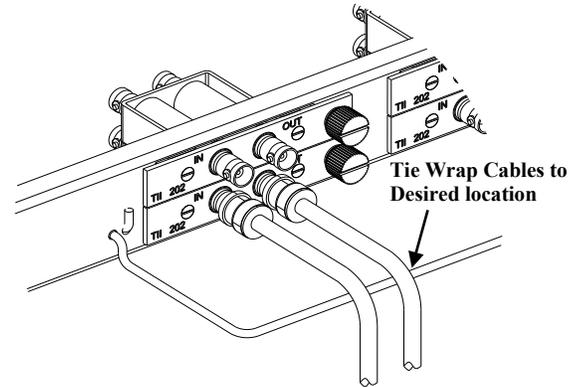

Figure 4
4. The 706 panels have cable management brackets provided for ease of cable harnessing and securing. Route cables to desired location and use a tie wrap to secure the cables to the cable management brackets (See Figure 4).